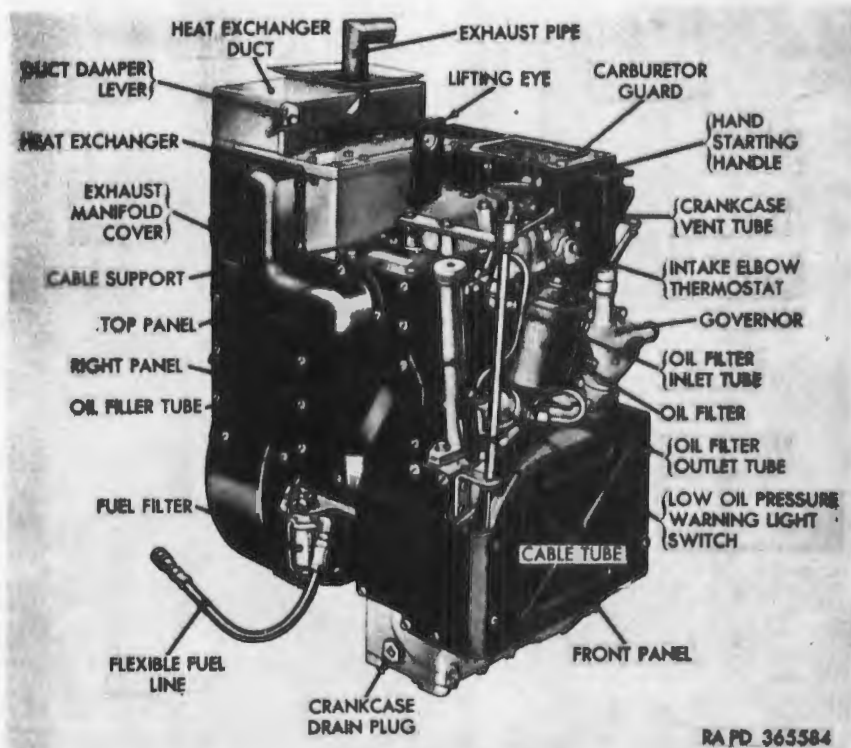
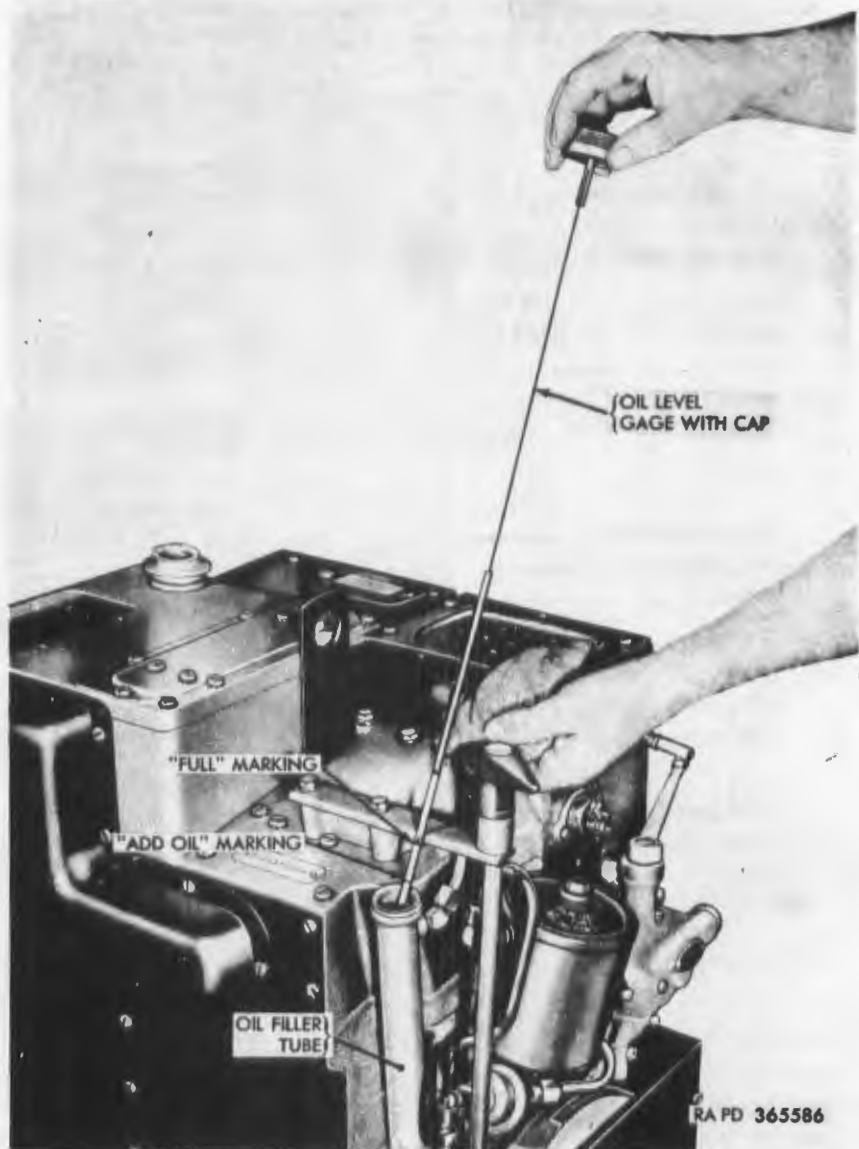
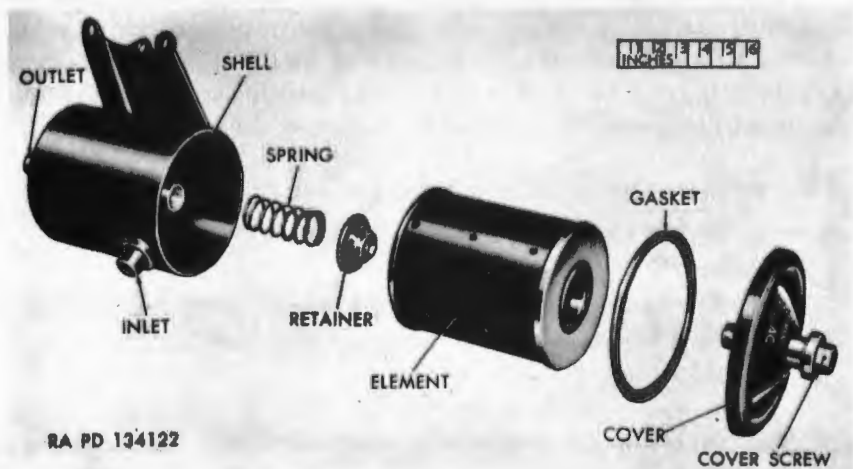

Figure 158. Auxiliary generator and engine—right front view.
Figure 163. Checking oil level.
Figure 164. Auxiliary generator and engine oil filter—exploded view.
(1) *General.* The auxiliary generator and engine (figs. 158 and 159) is installed as an integral unit on mounting rails in the right-front corner of the engine compartment and consists of a single-cylinder, air-cooled, gasoline engine which is connected directly to a 300-ampere, 27.5 volt, direct current generator. The generator is designed to also act as the starting motor for cranking the auxiliary engine. For operating instructions of the auxiliary generator and engine, refer to paragraph 70.
and a manual starting system. The electrical starting system is controlled from an auxiliary generator and engine control box (fig. 18) located in the driving compartment. The pull-type hand starting manual (fig. 158) is provided to facilitate extreme low temperature or emergency starting. For instructions on starting the auxiliary generator and engine, refer to paragraph 70.
- (a) *General.* A diaphragm-type fuel pump (S, fig. 160) supplies gasoline to a horizontal-barrel, fixed-jet carburetor. A bowl-type fuel filter (figs. 158 and 169) is provided in the fuel system to filter the incoming gas-
- (6) *Electrical system.* The direct-current, shunt-wound starter generator is directly connected to the auxiliary engine crankshaft. The generator delivers approximately 300 amperes at 27.5 volts at the normal full-load governed speed of 3,100 rpm. Series-parallel windings are provided in the generator but are energized only when the generator is used as the starter for the auxiliary engine. Generator voltage output is automatically controlled by a carbon-pile voltage regulator (M, fig. 160). A low oil pressure warning light switch (fig. 158), located beneath the oil filter, energizes the warning light on the auxiliary generator and engine control box (fig. 18) whenever the oil pressure in the crankcase falls below 13 psi. A wiring harness (K, fig. 160) interconnects the electrical components of the auxiliary generator and engine to the multiple cable receptacle.
- (8) *Governor.* Engine speed is controlled by a flyball-weight and spring-type governor (fig. 158) which is gear driven by the gear train. The governor controls the engine speed by varying the throttle opening to suit the load imposed on the generator. A vernier adjustment is provided on the governor spring for fine adjustment.
- (9) *Heat exchanger.* A heat exchanger (fig. 158) is provided for main engine compartment heating and is composed of a series of steel tubes encased in a sheet-metal retainer. Hot exhaust gases from the combustion chamber pass through, and heat these tubes. The warm cooling air from the auxiliary engine is heated further by these tubes and is passed into the engine compartment to aid in cold weather starting of the main engine or directly out through the engine compartment grilles during normal temperature operation. A 6-kw electric heater is located inside the heat exchanger to further heat this air when desired. This heater is controlled by the heater switch on the auxiliary generator and engine control box (fig. 18).
- (10) *Gear train.* An enclosed gear train is located at the front end of the engine. The crankshaft driving gear is connected to the oil pump, governor, camshaft, and primary counterweight gears, through the use of five idler gears. The crankshaft, magneto, camshaft, and counterweight gears are located in their correct position through the use of mating timing marks on the gears and engine crankcase.
- (11) *Lubrication.* The lubrication of the engine is accomplished partially by splash but primarily by the use of a constant displacement gear-type pump. The crankcase contains oil passages which are drilled to provide oil under pressure to the various engine parts requiring pressure lubrication. Hollow push rods conduct oil, under pressure, from the hydraulic valve lifters to the valve rocker arm and shaft assembly. Oil spill from the rocker arm and shaft assembly is returned to the crankcase by way of the cylinder head drain tube (fig. 167). A full-flow, replaceable element-type oil filter (fig. 158) is incorporated in the lubrication system. Refer to lubrication order LO 9-7218 (par. 90) for proper grade of lubricant and intervals for servicing the auxiliary generator and engine.
for metal particles which indicates abnormal wear or damage of internal engine parts. After oil has drained completely, install drain plug using a new gasket. Open grille doors (fig. 236) over auxiliary generator and engine. Remove bayonet-type oil level gage with cap (fig. 163) and pour quantity and grade of oil specified in lubrication order LO 9-7218 (par. 90) into oil filler tube (fig. 158). Check for leaks around drain plug before installing access cover plate (par. 246). Check oil level and install oil level
b. Oil Filter Element. The engine oil filter element (fig. 164) should be replaced at time of oil change. Open engine compartment grille doors (fig. 236) over auxiliary generator and engine. Loosen cover screw (fig. 164) and remove filter cover and gasket. Discard gasket. Pull out filter element, spring, and retainer from oil filter shell. Clean spring and retainer and remove all oil and dirt from within shell with cloth soaked in dry-cleaning solvent or mineral spirits paint thinner. Install spring, retainer, and new filter element into shell. Position filter cover and new cover gasket on shell and secure with special cover screw. Start auxiliary generator and engine (par. 70) and check for oil leakage around cover. If leaks are evident, stop engine and check installation of cover; tighten if necessary. Check oil level with oil level gage (fig. 163) and add oil to bring to correct level due to filter requirement. Close engine compartment grille doors.
c. Fuel Filter. Semiannually or when the auxiliary generator and engine is removed for other maintenance, remove the filter element and gasket and clean the fuel filter (fig. 158) thoroughly with dry-cleaning solvent or mineral spirits paint thinner. To gain access to the fuel filter on late engines (par. 186a(3)(a)), remove the auxiliary generator and engine (par. 188a). Loosen nut on bail securing bowl to filter cover, move bail aside, and remove fuel filter bowl and bowl gasket. Lift out element gasket and filter element from bowl and clean bowl with dry-cleaning sol-
- (13) Attach hoist to lifting eye (fig. 158) and carefully raise auxiliary generator and engine until ground and positive cable terminal posts are accessible. Remove nut and lockwasher securing each cable to its terminal post and remove cables.